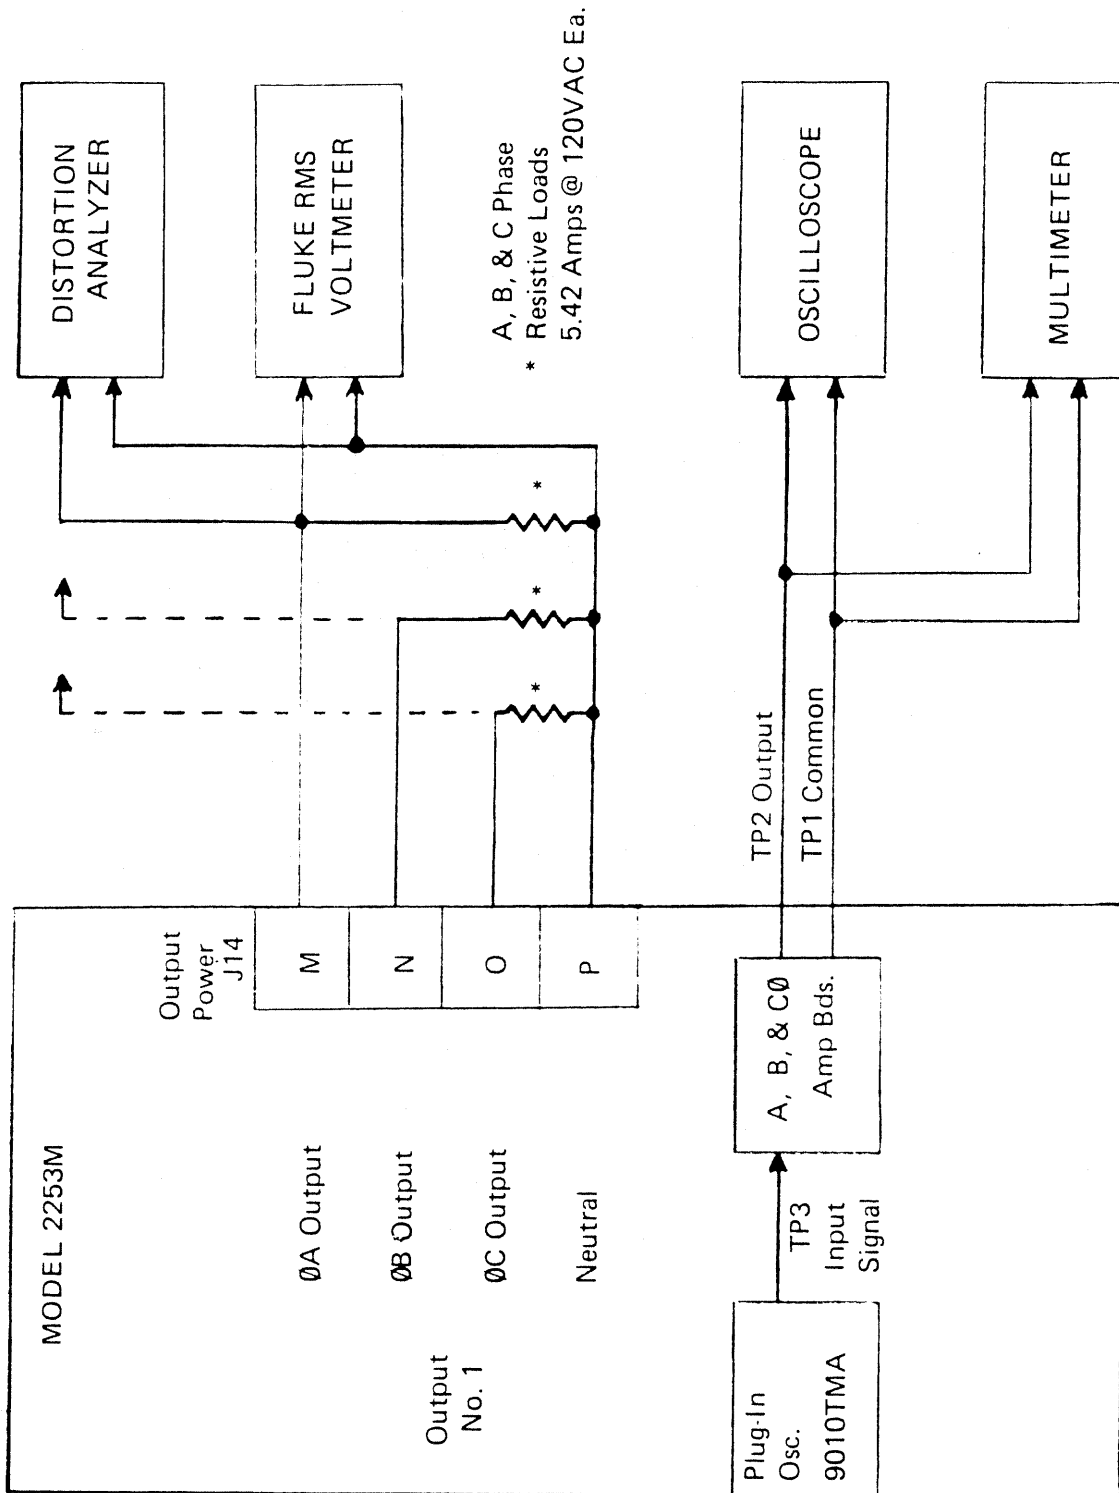

Figure 5-3. Test Set-Up
2. Connect three resistive loads each capable of dissipating 5.42 amperes. (See Figure 5-3.)
3. Connect distortion analyzer to A phase output terminals (see Figure 5-3).